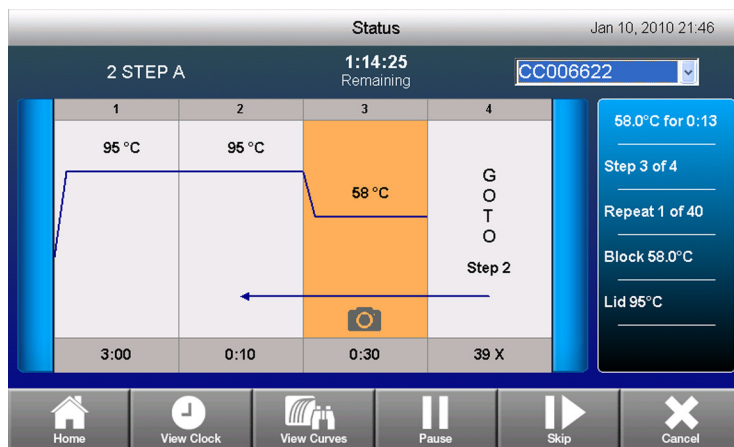

Figure 42. Monitoring a run in the Status screen.
- Status.** The Status screen displays the run in progress and presents options to View Clock, View Curves, Pause, Skip, or Cancel the run. (Figure 42)